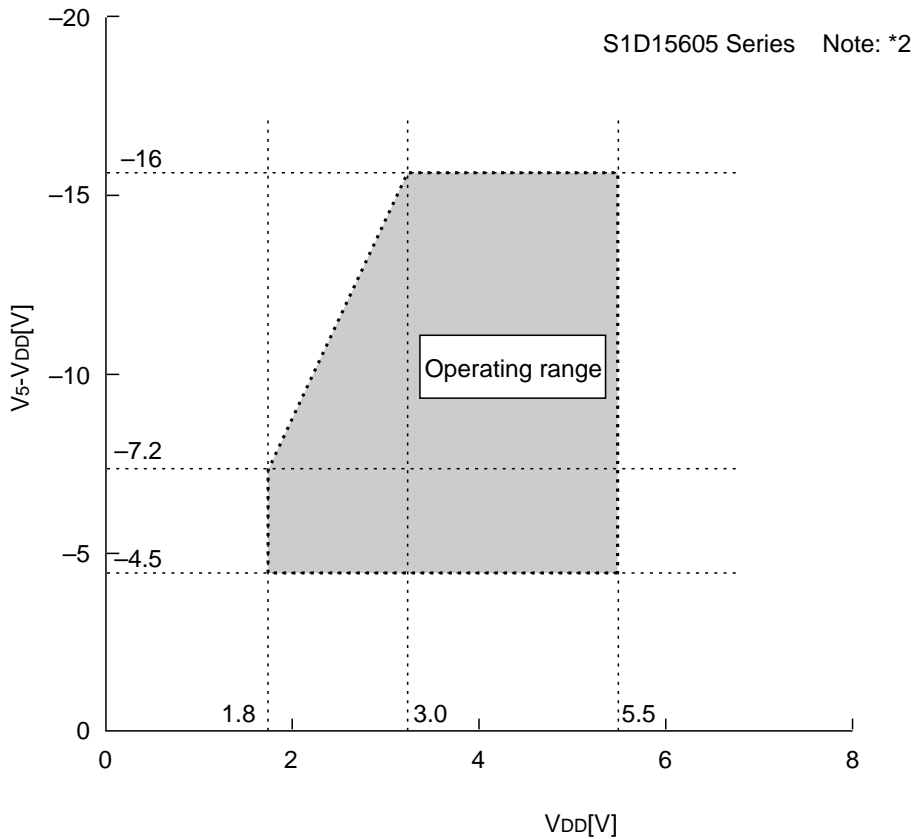

Figure 36
- *2 The operating voltage range for the V_{DD} system and the V₅ system is as shown in Figure 36. This applies when the external power supply is being used.
- *3 The A0, D0 to D5, D6 (SCL), D7 (SI), \overline{RD} (E), \overline{WR} (R/W), $\overline{CS1}$, CS2, CLS, CL, FR, M/S, C86, P/S, \overline{DOF} , \overline{RES} , IRS, and \overline{HPM} terminals.
- *5 The A0, \overline{RD} (E), \overline{WR} (R/W), $\overline{CS1}$, CS2, CLS, M/S, C86, P/S, \overline{RES} , IRS, and \overline{HPM} terminals.
- *6 Applies when the D0 to D5, D6 (SCL), D7 (SI), CL, FR, and \overline{DOF} terminals are in a high impedance state.
- *7 These are the resistance values for when a 0.1 V voltage is applied between the output terminal SEG_n or COM_n and the various power supply terminals (V₁, V₂, V₃, and V₄). These are specified for the operating voltage (3) range.